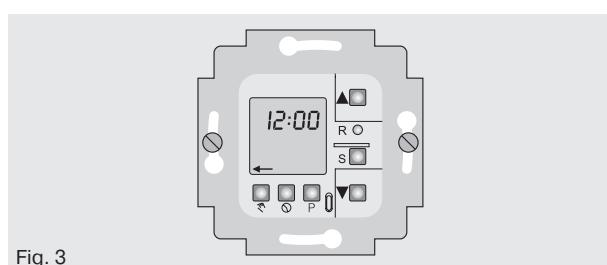

Fig. 3
- Then switch on the power supply. Please note that the first time the unit is operated, there may be a delay in switching on the timer, as the timer must first initialise itself. The number 12:00 (Fig. 3) will appear flashing on the display within 10 seconds.